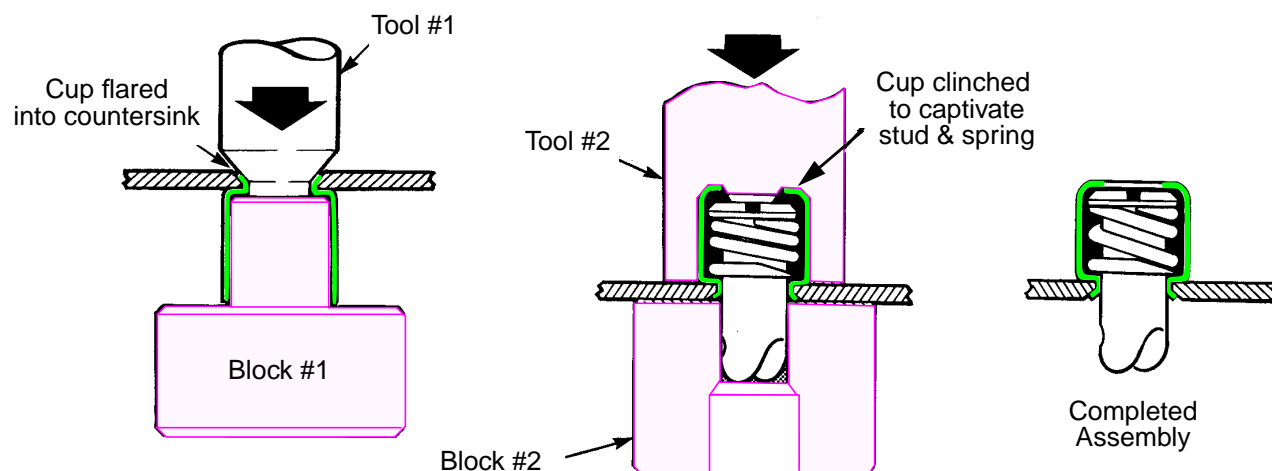

Figure 3 - Installation of Stud Assembly
5.3.1 Install stud assemblies which have **not** been purchased pre-assembled using a Dzus PT35 or PT 3 1/2 hand tool installation set as follows (see Figure 3):